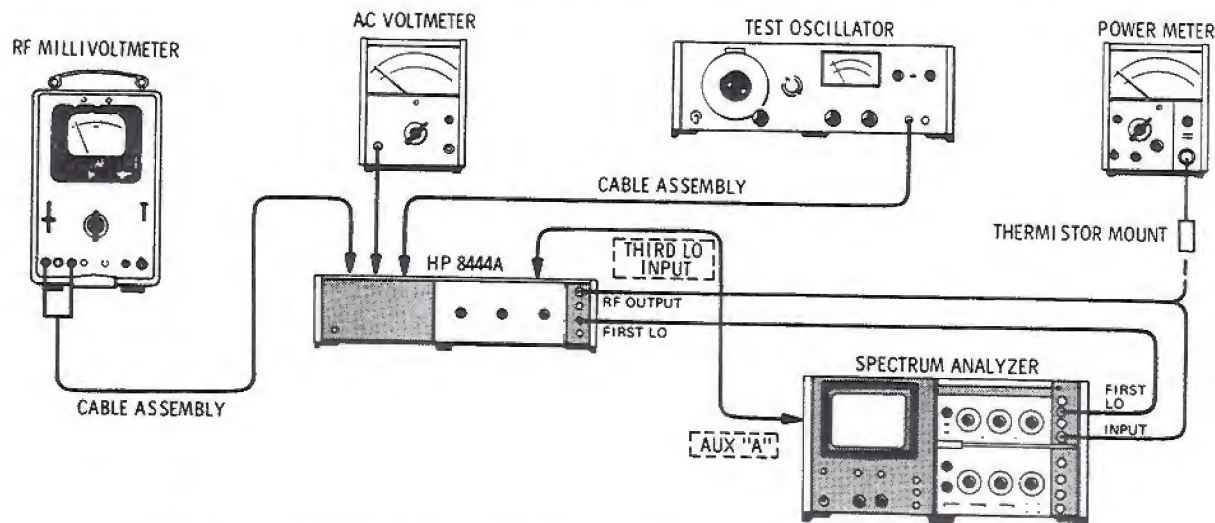

Figure 5-7. Automatic Level Control (ALC) Check and Adjustment Test Setup
2. Connect test setup as indicated in Figure 5-7 and set controls as follows: